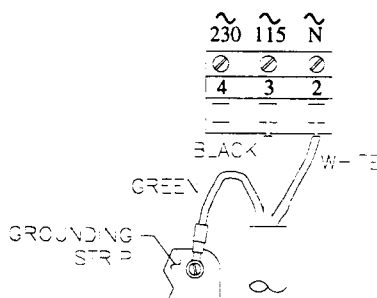

FIGURE 2-13
- *The grounding strip at bottom of case (5 open holes -- Figures 2-13, 2-15, or 2-17) for analyzers with "B" prefix serial number.*